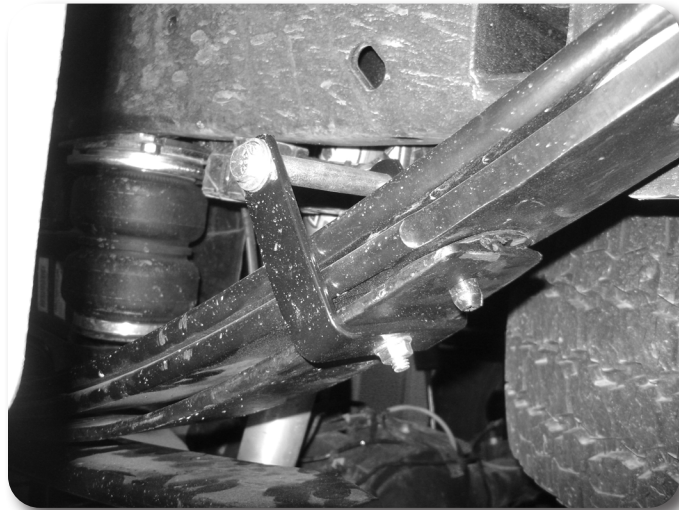

Figure 21
11. Install the hendricks clamps onto the add-a-leaf to the bottom side of the leaf spring. Install the anti-friction pads into the add-a-leaf. **Figure 21**